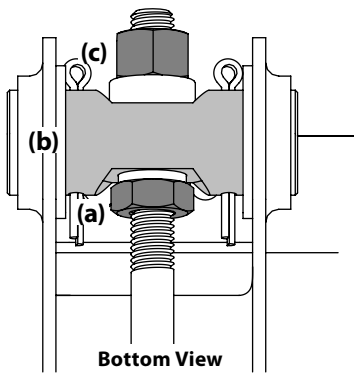

Figure 4-6
5. Using a wrench, raise the front of deck by loosening the lock nuts (a) to the front of the pivot pin (b) and then tighten the jam nuts (c) on the back of the pivot pin to raise the front of the deck and secure in place. See Figure 4-6.
6. Using a wrench, lower the front of deck by loosening the jam nuts (c) on the back of the pivot pin (b) and then tighten the lock nut (a) on the front of the pivot pin to lower the front of the deck and secure in place. See Figure 4-6.